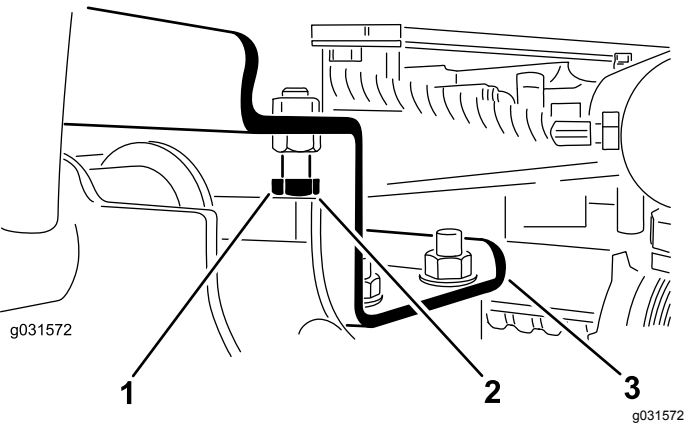

Figure 7
- A. Back off the stop bolts (Figure 7).
2. Ensure that the clearance between each lift arm and stop bolt is 0.13 to 1.02 mm (0.005 to 0.040 inch) as shown in Figure 7.